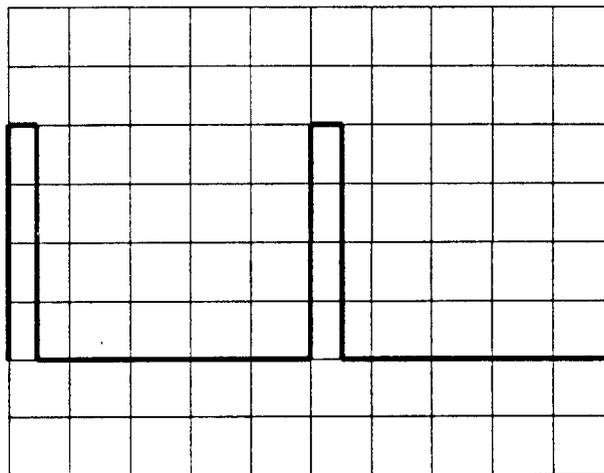

Figure 9. Equipment Calibration Waveform
12. Adjust the pulse generator's frequency vernier so that pulses are approximately five divisions (5 μ s) apart. See Figure 9.